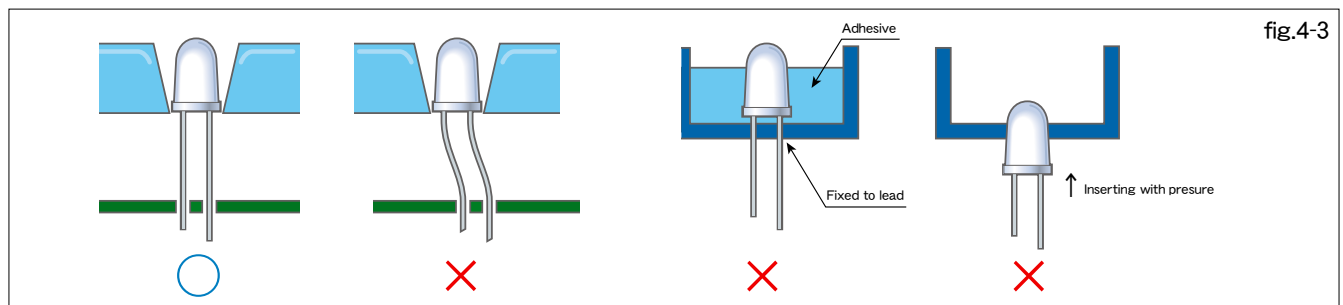

fig.4-3
- ③ To determine mount positions of LEDs using a casing, please take into account the dimensions of the casing, board, device to avoid excessive stress on the lead. Please fix the LED within the casing using the lead, and do not use adhesives, resin, or any other materials to fix the LED position. (fig.4-3)